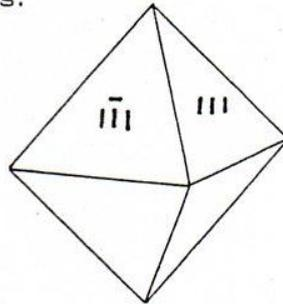

Fig. 1
For the purpose of illustration the octahedron is a much simpler form to portray, and Fig. 1 illustrates the readily recognisable form of the octahedron. The interfacial angles between faces  $\bar{1}11$  and  $1\bar{1}1$  of the Isometric System octahedron is  $70^{\circ}31'$ , which can easily be checked on cleaved Fluorite octahedrons.
The use of the word bevelled in the caption to Fig 1 on page 9 might be acceptable if used by a carpenter to describe the results of using his plane on the edge of a table, but in mineralogical terms is totally wrong in this instance. An edge of the cube in the figure has been **truncated**, and the single additional face thus formed is that of the dodecahedron (110). A **bevelled** edge on a cube produces two additional faces, those of the tetrahexahedron (hk0).
The three axes of the Isometric System are of equal length, and because a truncated edge is formed equally between two adjacent faces, that is the "new face" intercepts two of the three axes equally, the indices must be (110). However, bevelled edges, by definition in mineralogical terms, cannot intercept the axes at equal lengths, and the resultant variable indices are given the general form (hk0). Because their intercepts are variable many tetrahexahedral forms are possible, for example (210), (310), (320), (530) etc. with the first two probably the most common. The diagrams in Figs 1 and 2 may be helpful in identifying cubes modified by dodecahedral faces (**truncated edges**), and those of the tetrahexahedron (**bevelled edges**) respectively.